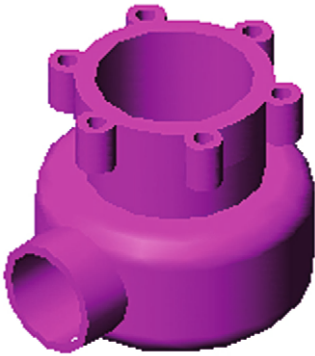

Fig. 15.9 Example of constructing a 3D model
An example of constructing a 3D model (Fig. 15.9)
12. Call **3D Orbit** and *click Visual Styles/Conceptual* in the *right-click* menu of the tool (Fig. 15.9).